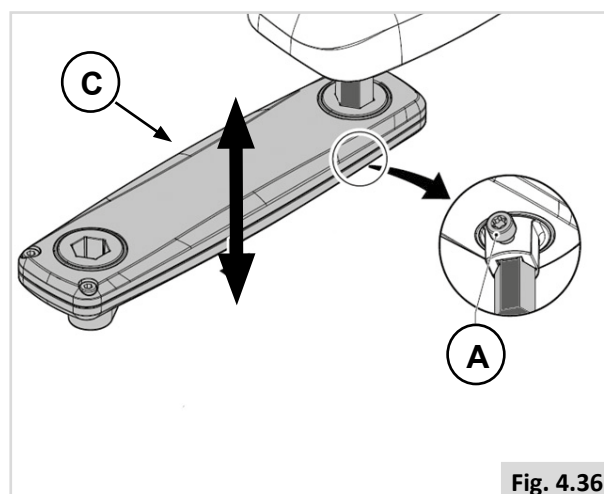
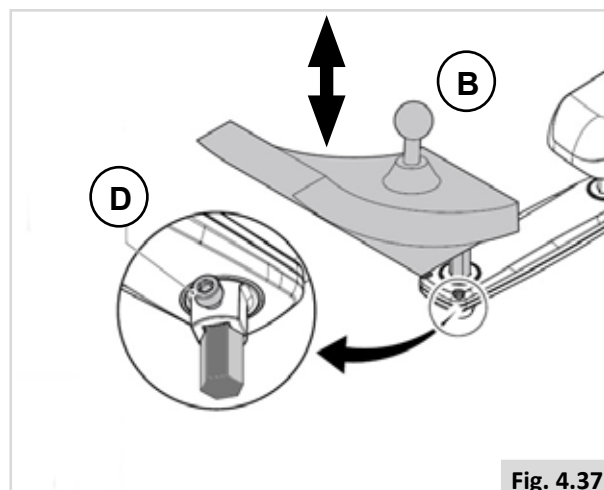

Fig. 4.36
Fig. 4.37
Pre-setting height of the controller (1), (Fig. 4.36).
1. Loosen (A).
2. Slide (C) into desired position.
3. Tighten (A).
Pre-setting height of the controller (2), (Fig. 4.37)
1. Loosen (D).
2. Slide (B) into desired position.
3. Tighten (D).